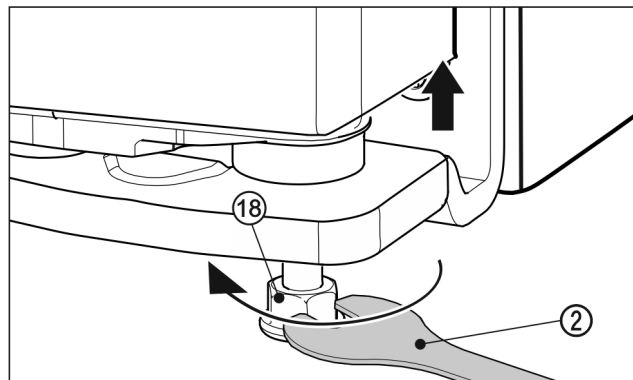

Fig. 33
- ▶ To lift the door, unscrew the adjusting foot *Fig. 33 (18)* clockwise with the supplied open-ended spanner *Fig. 33 (2)*. When delivered, the bearing pin is completely screwed in.